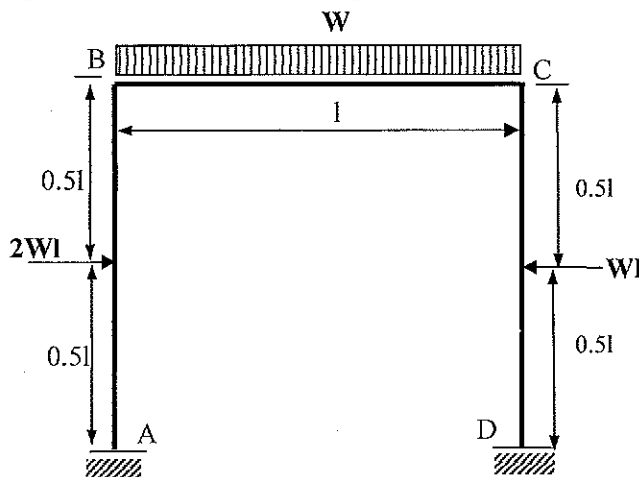

Figure Q5
- (ii) A portal frame structure shown in Figure Q5. Flexural rigidities of members are same. Find the free nodal displacements at B using the displacement method. You can neglect the axial deformation. (10 Marks)